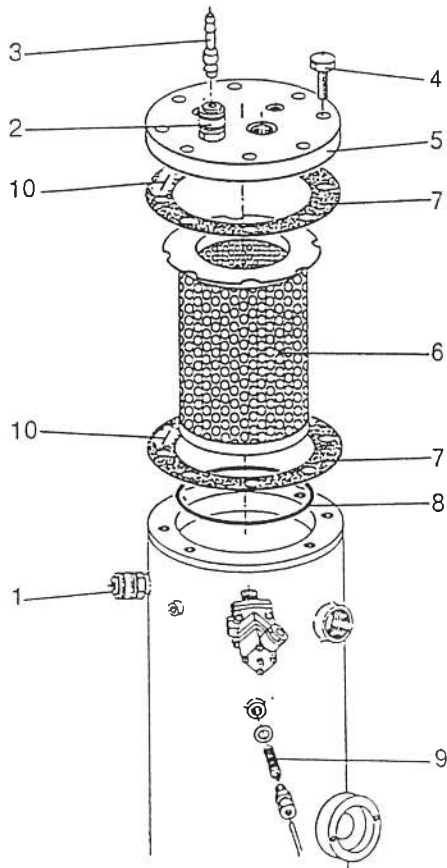

Figure 20
- The socket to vent the tank is attached to the hose coupling (1, Figure 20). It is used for maintenance work, such as oil refill, oil and filter change.
- Place vent socket (3, Figure 20) into hose coupling (2, Figure 20) at the tank (the tank loses its pressure). Then wait about 1 minute until the oil settles.
- Insert pressure gauge into the hose couplings at the tank (1 and 2, Figure 20) and take pressure readings.